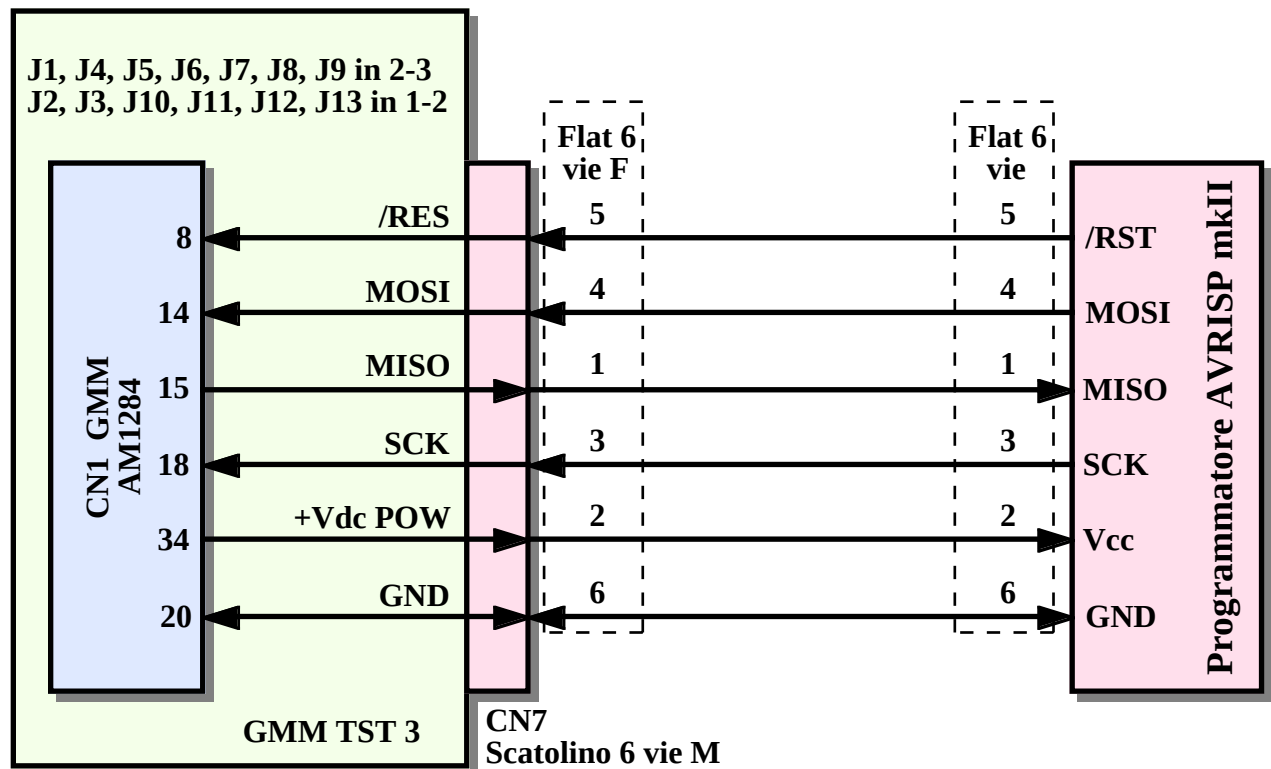

FIGURE D3: AVR ISP MK II CONNECTION
- c) Connect the **AVRISP MK II** to the **ISP** interface of the **GMM AM1284**, making sure to connect the 6 signals of the same one, as you can see in the previous figure. If the user has got the **GMM TST 3** the connection is reduced to a six ways flat cable of the **AVRISP mk II**, directly inserted to the CN7 connector of the card, as you can see in the figure D3.
- d) As you can see in the figure D3, the **ISP** interface uses 4 signals of the Mini Mode and its electricity supply. For this reason, while the **AVRISP mk II** is used, the signals connected to the 8, 14, 15, 18 pins of the socket, can't be used by the user.